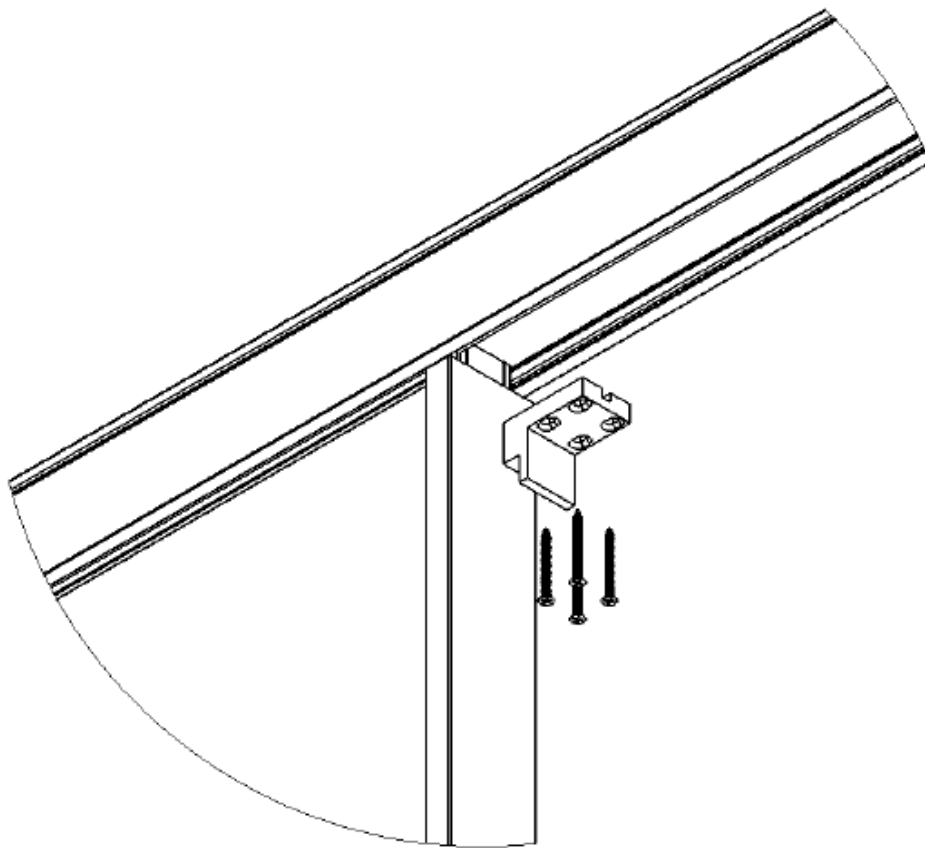

Figure 17
Anchor the head of the fixed panel in location using the anchor clip and (4) #10 x 2" screws. See **Figure 17.**